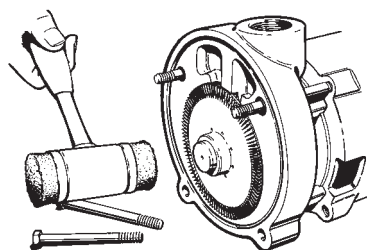

Figure 4-1
4. Remove the impeller (#11), refer to Figure 4-1. The impeller is a slip fit and, under normal conditions, can be removed by gently tapping on the end of the shaft sleeve with a mallet. Leave the impeller key (#23) in place.